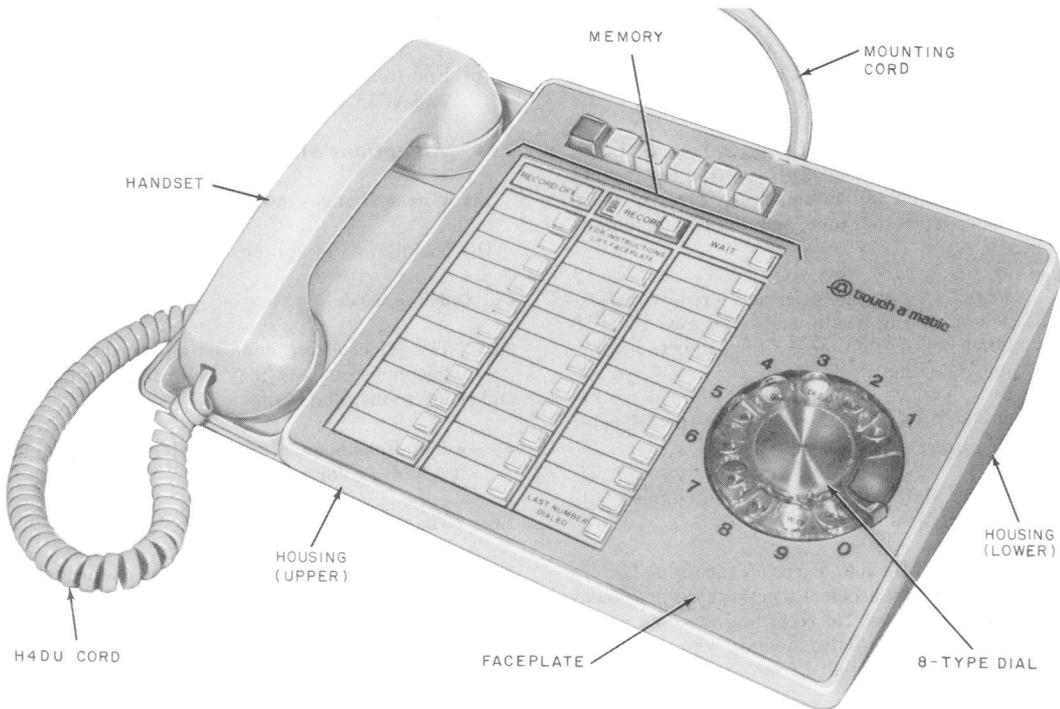

Fig. 1—872A1M Telephone Set
1.01 This section contains information on the 872A1M rotary dial TOUCH-A-MATIC telephone set (Fig. 1).